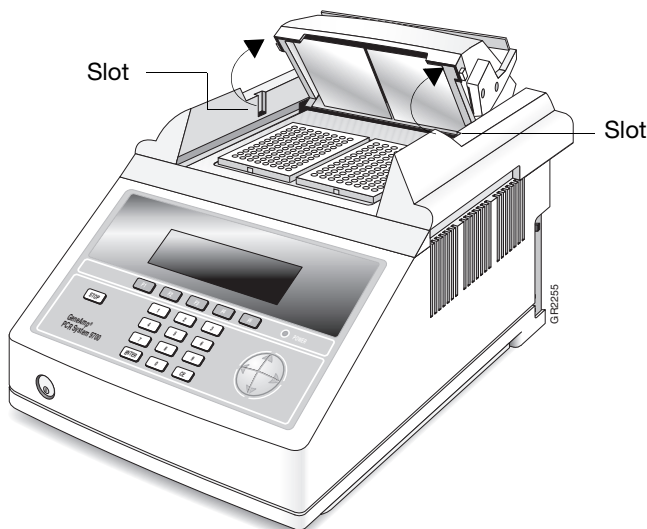

Figure 2-1 Heated cover in cleaning position
- Put the cover into the cleaning position by raising the front of the lid through the slots on each side of the module as shown in Figure 2-1.
2. Put the heated cover into the cleaning position. See step 4 on page 2-3 and Figure 2-1 above.